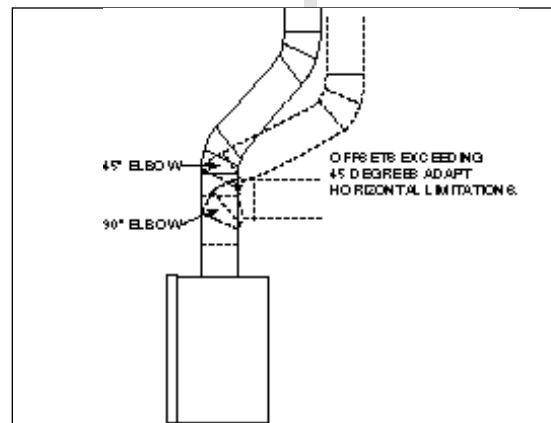

Figure 5 - Using Elbows
b. Using Elbows. Elbows exceeding 45° from the vertical shall be considered horizontal and therefore adapt horizontal run limitations. See Figure 5.